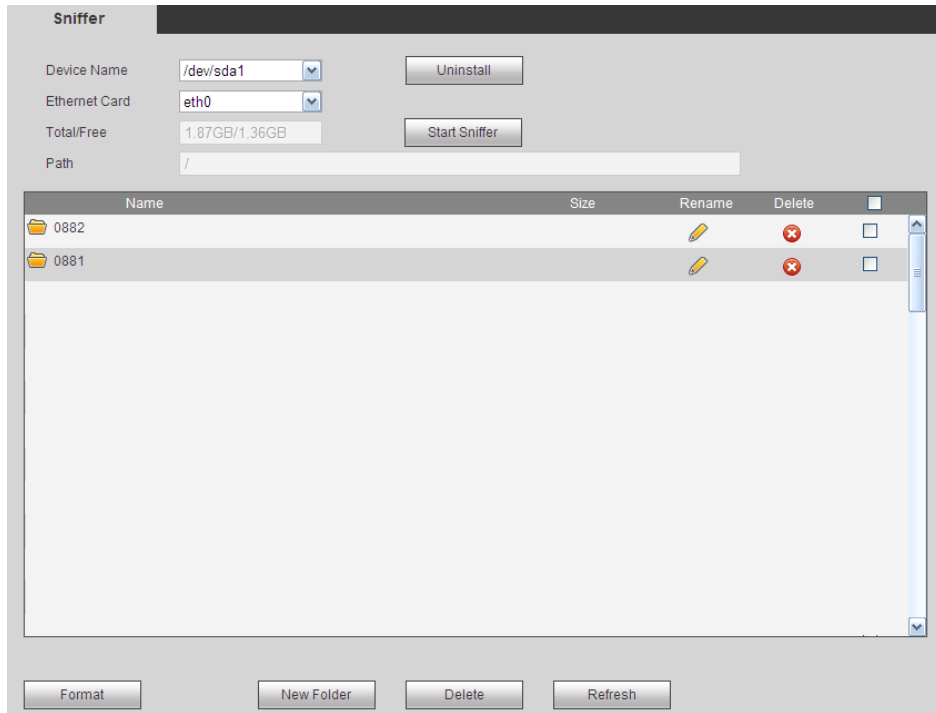
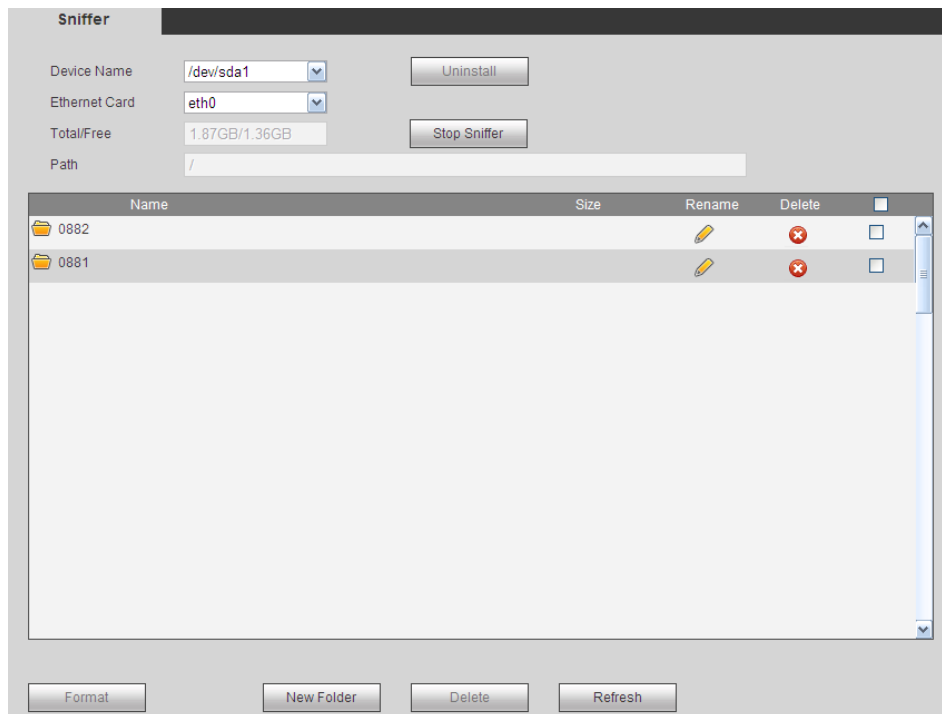

Figure 3-63
Figure 3-64
- 1) Insert flash drive to the USB port at the front panel of the decoder and then click refresh button. After you see device name, space, you can see system has detected flash drive. Now you can go to the next step. See Figure 3-63.
- 2) In Figure 3-63, click **Start Sniffer** button, you can see system writes data to the flash drive and the **Start Sniffer** button becomes **Stop Sniffer** button. See Figure 3-64.